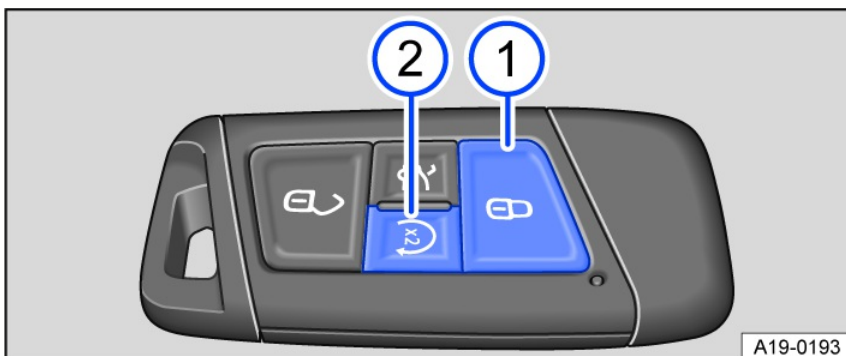

Fig. 112 Vehicle key with remote start relay function.
- Press the key  *fig. 112*  **once**. All turn signals will flash.
Press the  button *fig. 112*  in the vehicle key to switch off the engine.